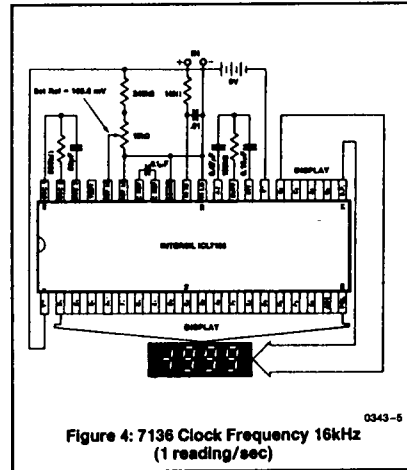

Figure 4: 7136 Clock Frequency 16kHz (1 reading/sec)
- NOTES: 3. Unless otherwise noted, specifications apply at  $T_A = 25^\circ C$ ,  $f_{clock} = 16kHz$  and are tested in the circuit of Figure 4.